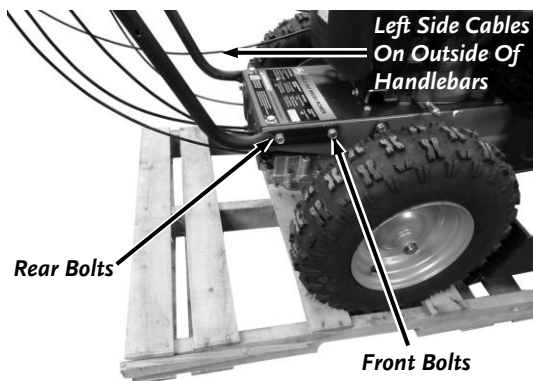

Figure 4
1. With the Handlebars resting on the ground, Align the front holes of the Handlebars to the front holes in the Frame (**Figure 4**).